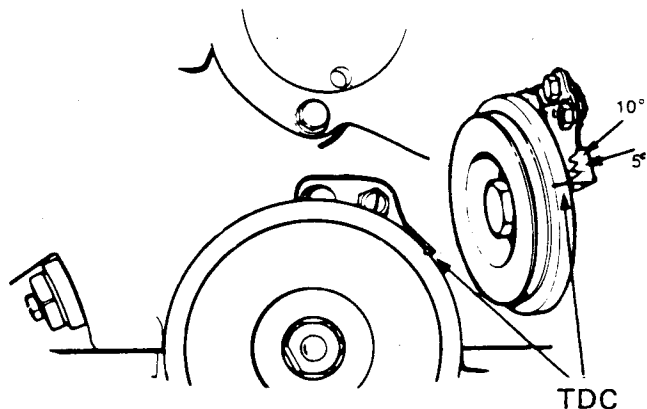

Fig B4.89
- (1) Refer to Fig B4.89. Set the timing marks to TDC. With No 1 cylinder firing (distributor rotor pointing to No 1 cylinder take-off and the points opening).
- (2) Remove the camshaft cover and gasket (see Sub-section B4, Chapter 11).